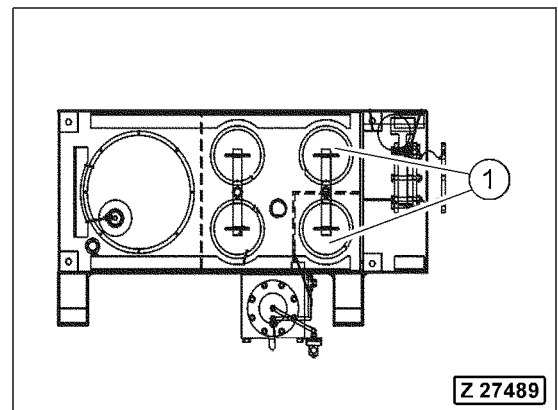

Fig. 3-163
- Open the cover (Fig. 3-163, Pos. 1) of the return oil filter.